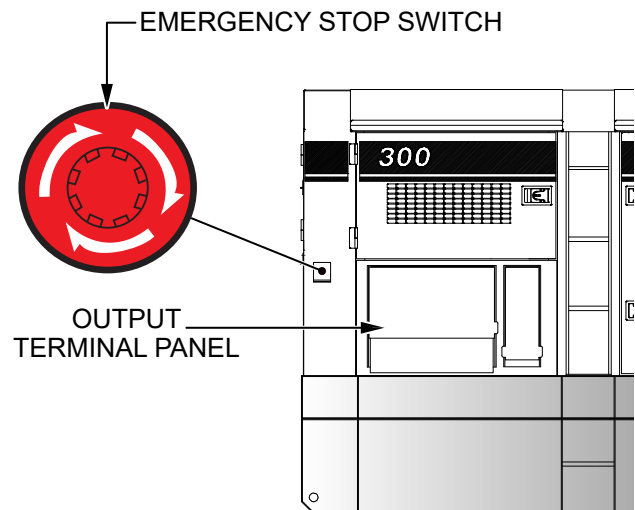

Figure 14. Emergency Stop Switch
1. To stop the engine in the event of an emergency, push the **Emergency Stop switch** (Figure 14). This switch is located on the side of the generator next to the output terminal panel.